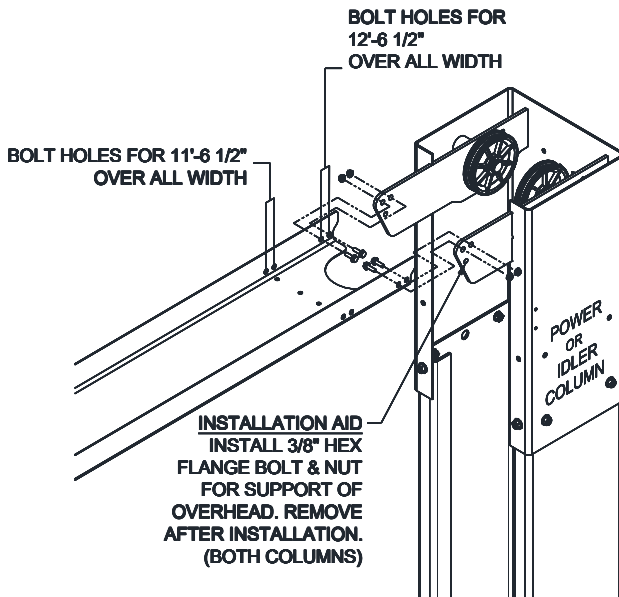

Fig. 8 – Overhead Assembly
- 19) Before raising overhead into position install 4 (2 per column) hex flange bolts and nuts in middle hole of column extension (**see Fig. 8 Installation Aid**) for temporary support of overhead. Lift overhead assembly up into position and install with 8 (4 per column) 3/8-16 x 3/4" lg hex flange bolts and hex flange nuts per side as shown in **Fig. 8**. For the max width position, the outer overhead holes will be used. For the (-6") width, one set of outer overhead holes and one set of inner overhead holes will be used. For the (-12") width, the inner set of overhead holes will be used.